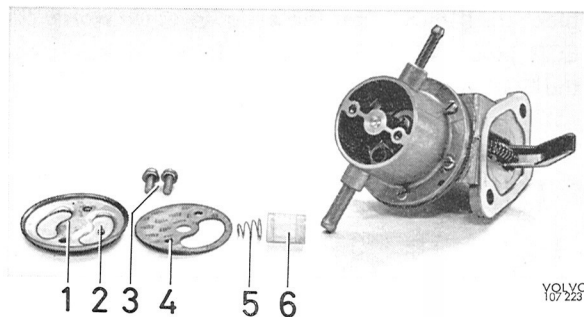

Fig. 2-143. Fuel pump, S.E.V.
1. Remove the cover (1, Fig. 2-143), the spring (5) and the seal (4).
3. Remove the filter (6) and blow it clean or replace it.
4. Install the filter. Place the seal in position with the open part over the filter. Place the spring (5) in position and the cover with the boss (2) facing the spring